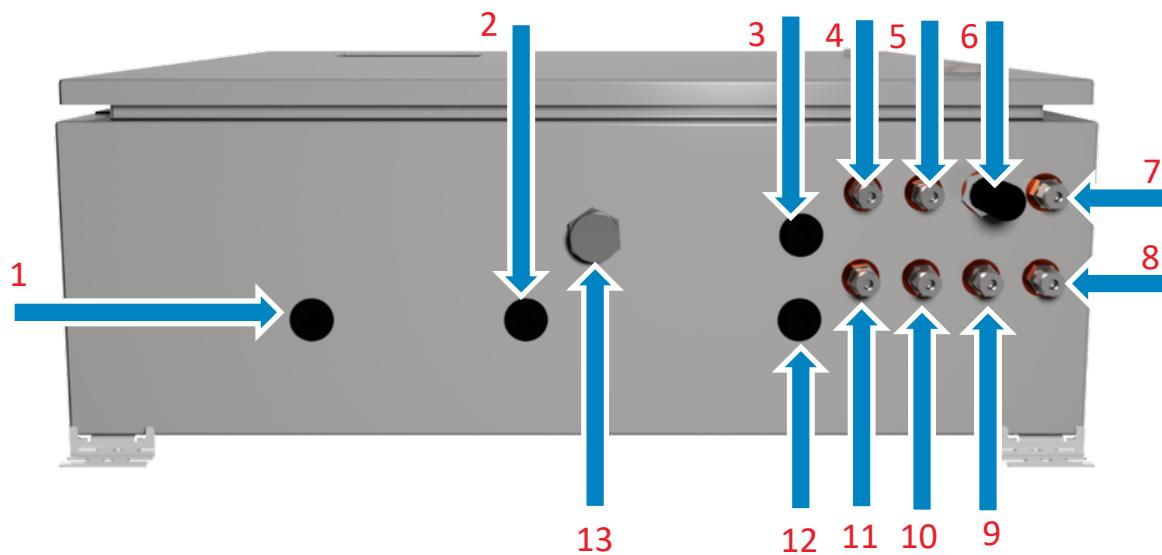

Figure 3 - BIOGAS 3000 customer connections
- Compression fittings – found on the bulkheads on the enclosure base (see annotations 4, 5, and 7-11 on Figure 3 - BIOGAS 3000 customer connections)
There is an enclosure breather fitted to the BIOGAS 3000 situated at the base of the enclosure (see annotation 13 on Figure 3 - BIOGAS 3000 customer connections). It is the user's responsibility to ensure that there is a free circulation of air around the cabinet.
The installation will require the operator to connect a mains cable, output cable, drain and gas pipes to the equipment. Figure 3 - BIOGAS 3000 customer connections identifies the available connection points on the BIOGAS 3000:
- The sample tube should be connected to the bulkhead connectors labelled 'SAMPLE GAS 1', 'SAMPLE GAS 2', 'SAMPLE GAS 3', and 'SAMPLE GAS 4' where applicable – see annotations 4, 5, 10, and 11 on Figure 3 - BIOGAS 3000 customer connections.
- The gas exhaust line should be connected to the bulkhead connector labelled 'PROCESS RETURN' – see annotation 7 on Figure 3 - BIOGAS 3000 customer connections.
- The sample tube should be connected to the bulkhead connector labelled 'AIR IN' – see annotations 6 on Figure 3 - BIOGAS 3000 customer connections.
- The sample tube should be connected to the bulkhead connector labelled 'VENT TO ATMOSPHERE' – see annotation 9 on Figure 3 - BIOGAS 3000 customer connections.
- The drain line should be connected to the bulkhead connector labelled ‘DRAIN’ – see annotation 8 on Figure 3 - BIOGAS 3000 customer connections.